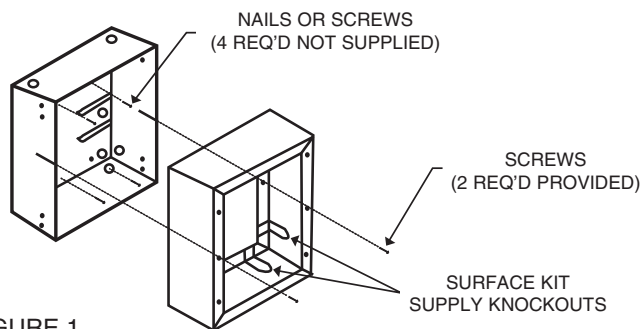

FIGURE 1
2. If power supply is provided from inside wall, remove knockout in back of backbox, install cable clamp leaving at least 8 inches (203 mm) of cable inside back box. Secure back box to building structure using (4) holes in back box. (See Figure 1).
Note: In order to match up with clearance knockouts in surface frame, the knockouts located in corner next to the knockout in back of box must be used. (See Figure 1).
4. If supply is by surface system, remove the clearance knockout in surface frame so frame will slide over supply. (See Figure 1).